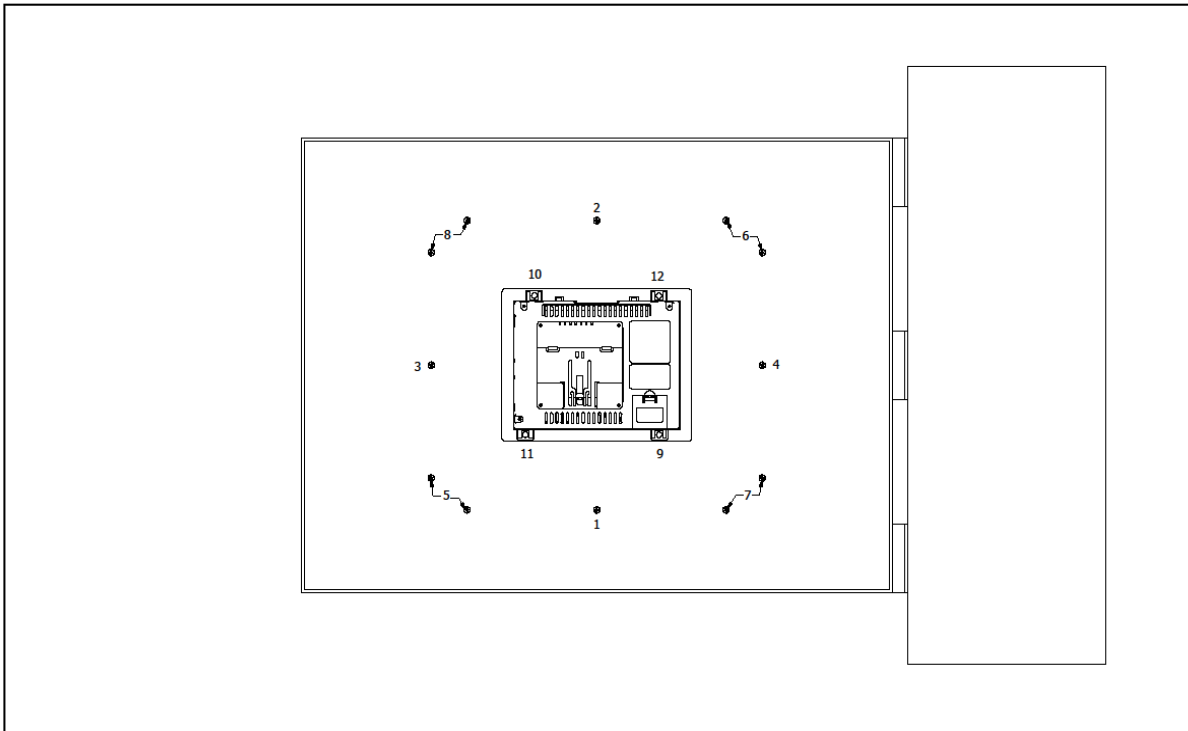

Figure 3.2–Perimeter Set Studs
2. If the system does not experience shock or vibration and will not be exposed to weather or wash down conditions, the unit can be installed by cutting the rectangular opening and installing the four (4) supplied clips.
8. The two (2) spring clips will latch the unit in the panel.
9. Insert each of the four (4) mounting clips into the slots in the XL+ OCS case. One clip should be installed on each corner. Lightly tighten each screw so the clip is held in place.
11. If the perimeter studs are needed, it is recommended to use a thread locker (similar to 242 Blue Loctite). Use supplied lock washers and nut. Recommended torque is 3-4 in-lbs (0.34-0.45 Nm). Refer to Figure 3.2 (below) for the proper torque sequence.